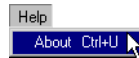

Figure 4-12. Help->About
3. Click on **Help->About** (Figure 4-12).